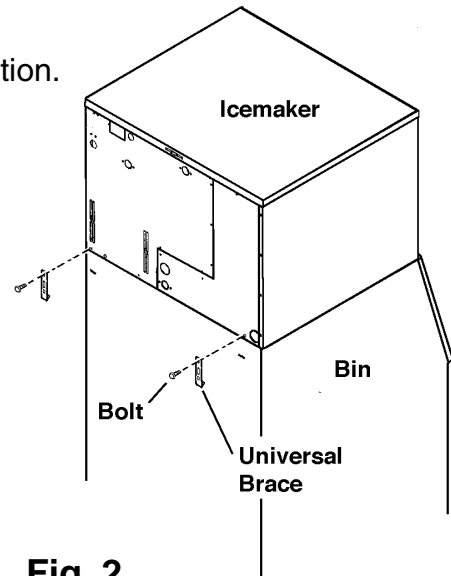

Fig. 2
- 4) Secure the icemaker to the Storage Bin, by using the two Universal Braces and the two bolts provided. See Fig. 2